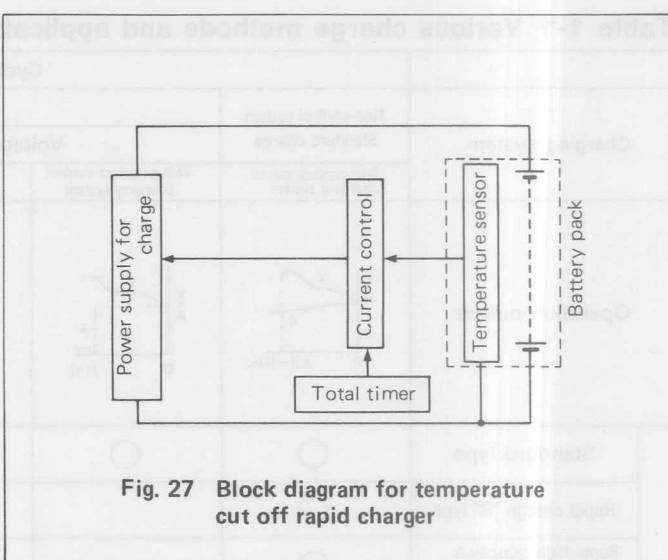

Fig. 27 Block diagram for temperature cut off rapid charger
(B) The temperature sensor is placed within the battery pack (Fig. 27), and in direct contact with the cells. The temperature sensor is usually set at 45°C.